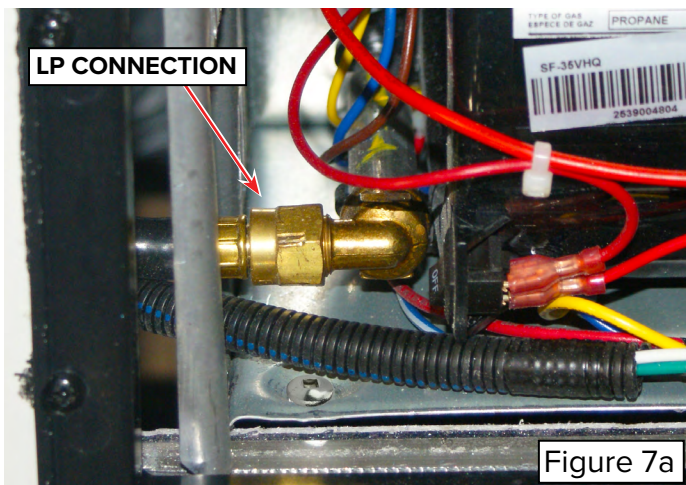

Figure 7a
9. Use a 3/4" open end wrench and an adjustable wrench to disconnect the LP gas line at the furnace (Figure 7a and 7b).